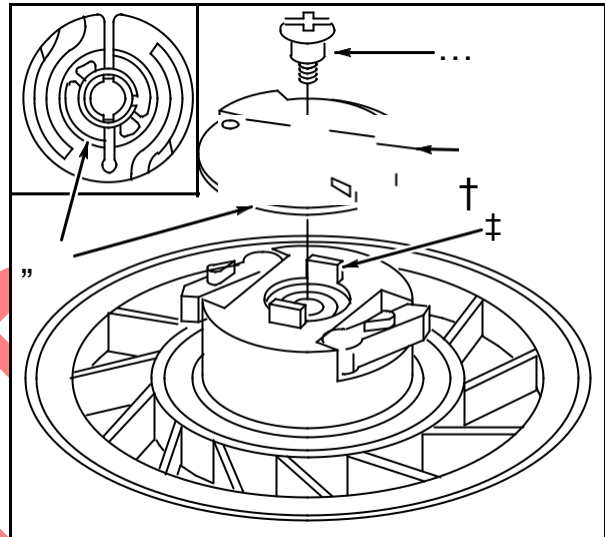

Fig. 63
Install retainer making sure that slots (4) in retainer (6) engage tabs (7) on pulley, **Fig. 63**.